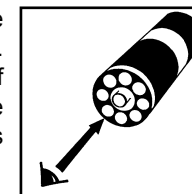

Figure 5
9. Obtain a test result by placing the ampoule, flat end first, into the comparator. Hold the comparator up toward a source of light and view from the bottom. Rotate the comparator until the best color match is found (fig 5).